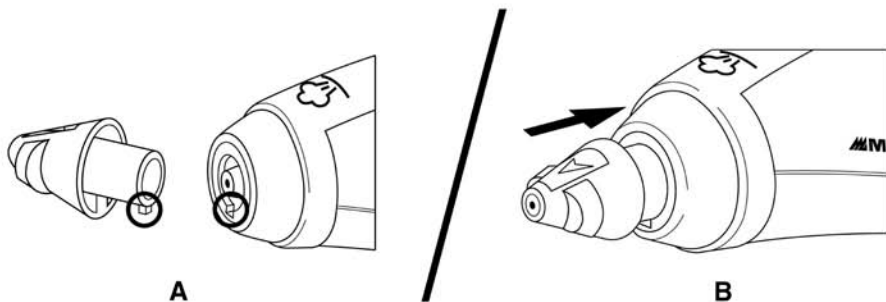

FIGURE 1
1. Align Straight Nozzle / Angled Nozzle / Nylon Utility Brush with Steam Nozzle as shown, noting that arrows are at top and bottom of accessory. Make sure to align tab on attachment with slot at bottom of Steam Nozzle (FIGURE 1-A).
2. Press attachment into Steam Nozzle (FIGURE 1-B).